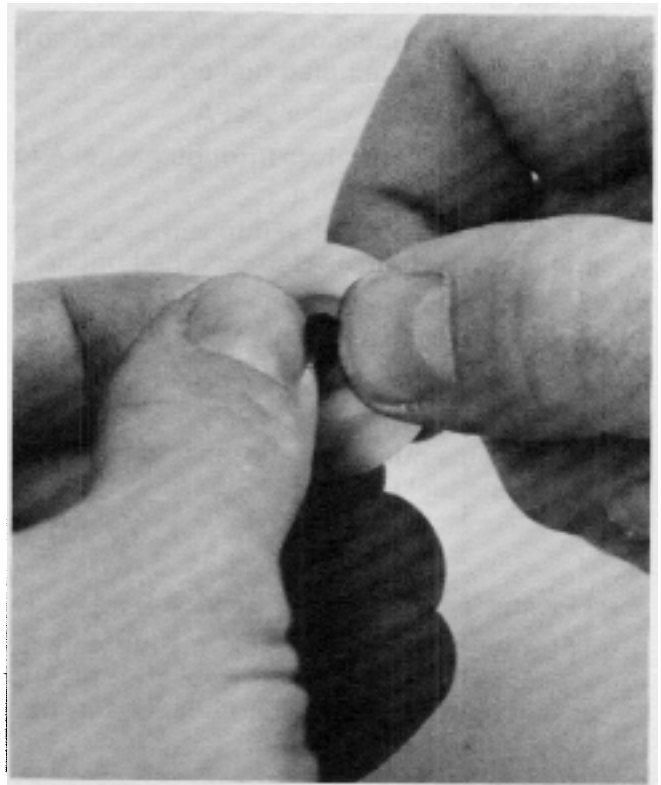

Figure 47
3. The stem of the umbrella valve allows air into the tank to compensate for the fuel being used by the engine. Ensure that it will open and close by holding the flat end lengthwise between your thumbs and squeezing. See Fig. 47.